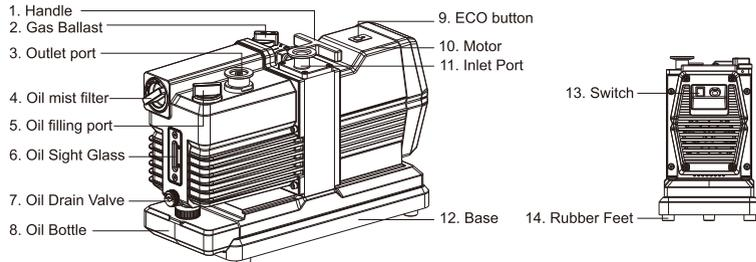
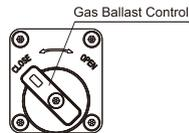

Fig. 1
Fig. 6
Remove Oil Filling Port (No. 5 in Fig. 1) and fill oil into the pump. The first oil filling shall reach 80 - 90% below MAX position. Open Oil Drain Valve (No. 7 in Fig. 1) to discharge the excess oil above MAX position.
Close the gas ballast (No. 2 in Fig. 1) to pump non-condensable gases (Gas ballast position refer to Fig. 6). The ultimate pressure will rise (loss of vacuum) when the gas ballast is open.
- 2.1) If the vacuum system contains a small amount of condensable gas, open gas ballast (Move gas ballast to open position refer to Fig. 6) to displace the vapor.
2.2). Close the inlet port (No. 11 in Fig. 1) and open gas ballast (No. 2 in Fig. 1) before restarting the pump. Keep the pump running for 30 minutes or more to eliminate the gases absorbed in the oil due to long time no use. If the ultimate vacuum still cannot be reached, replace vacuum oil.